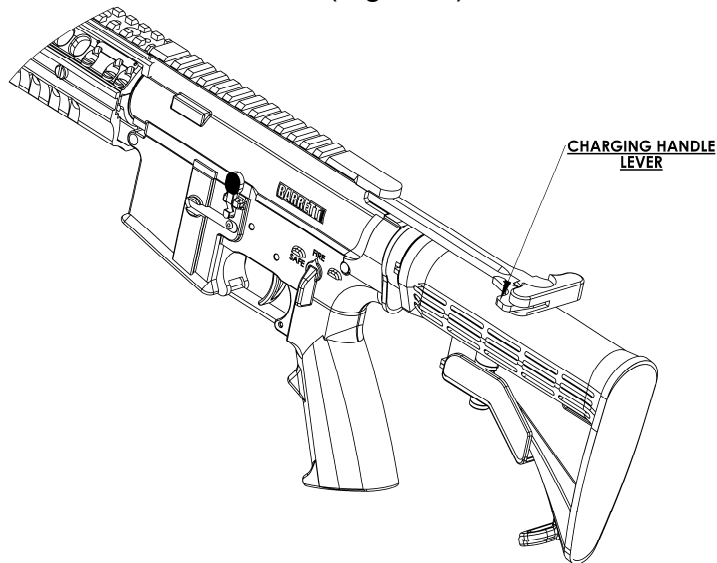

Figure 4.
2. Before pulling the charging handle, disengage the charging handle lever with index finger on left side of handle. Pull charging handle back with index and middle fingers. Once the charging handle is in the rear most position, release handle with both fingers and let the handle pull forward without any assist. This will ensure the full force of the buffer spring is utilized to chamber the first round. (Figure 4).